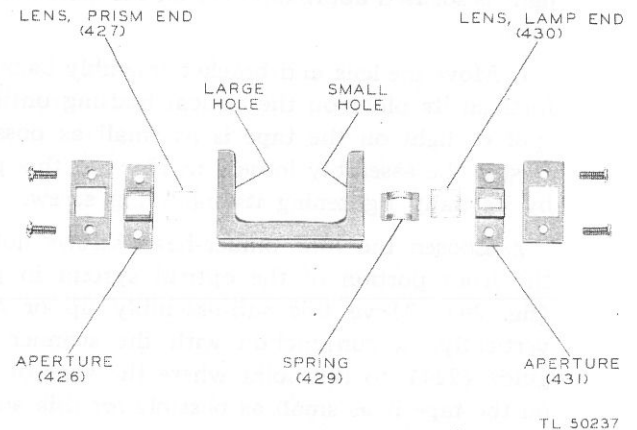

Figure 36—Lens-and-bracket assembly (disassembled)
(368) in order to replace the assembly or parts of the assembly, reassemble as follows: (See fig. 36.)
(1) End near exciter lamp:
- b. Curved spring (429), curved portion vertical and facing outward.
- c. Thick lens (430), curved portion vertical and facing inward (against curved portion of spring).
- d. Small-hole aperture piece (431).
(2) End near hexagonal prism:
- b. Thin lens (427), curved portion horizontal and facing inward.
- c. Large-hole aperture piece (426).